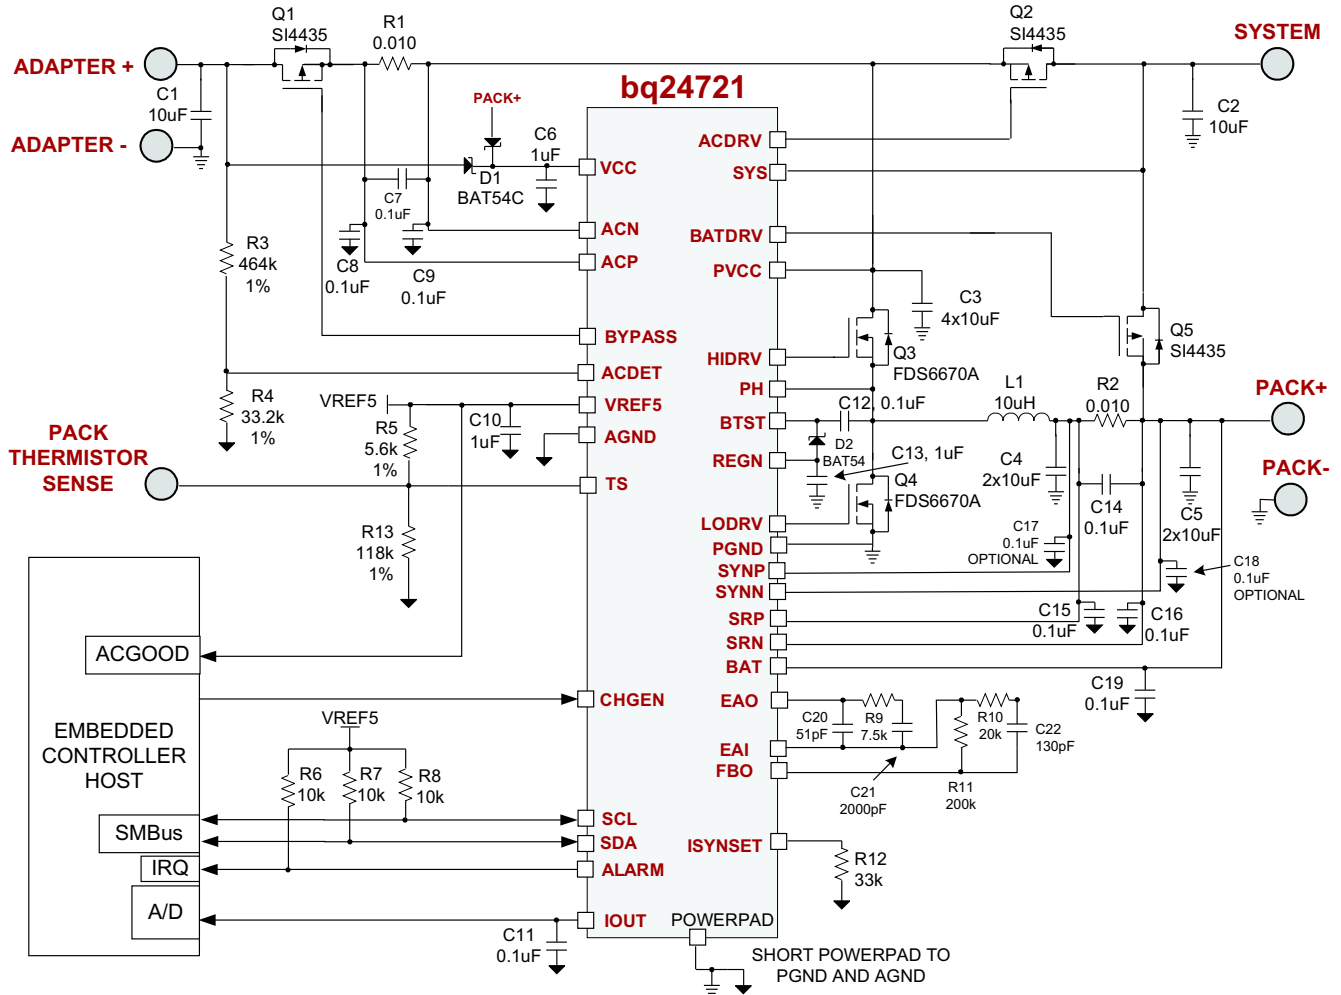

Figure 53. bq24721 SBS-Like SMBus Host Control With System Power Selector (bq24721 With TS Thermistor Sense Input Pin)
BOM Key Components (For Figure 53, bq24721 Typical Application Circuit)
(1) The manufacturer's part number are used for test purposes only.
**BOM Key Components (For Figure 53, bq24721 Typical Application Circuit) (continued)**